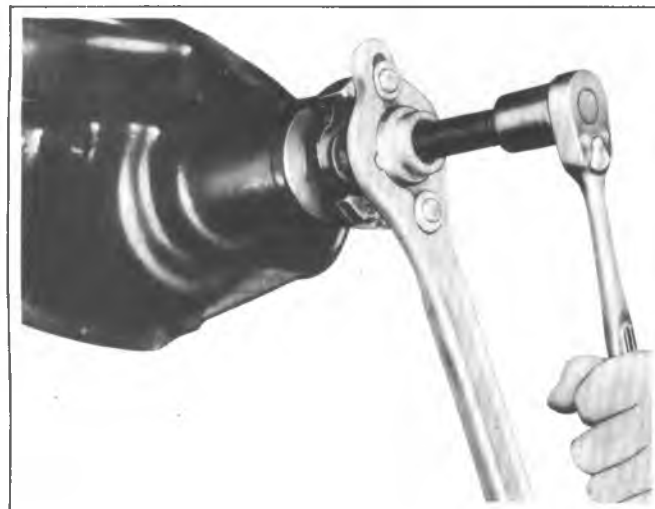

Fig. 13B--Drive Pinion Flange Removal
5. Thread end of J-8614-3 into small O.D. end of J-8614-2. Then with J-8614-11 installed as in step 3, insert J-8614-2 into J-8614-11 and turn it 1/8 of a turn to locked position. Remove flange by turning J-8614-3 while holding J-8614-11 as shown in figure 13B.